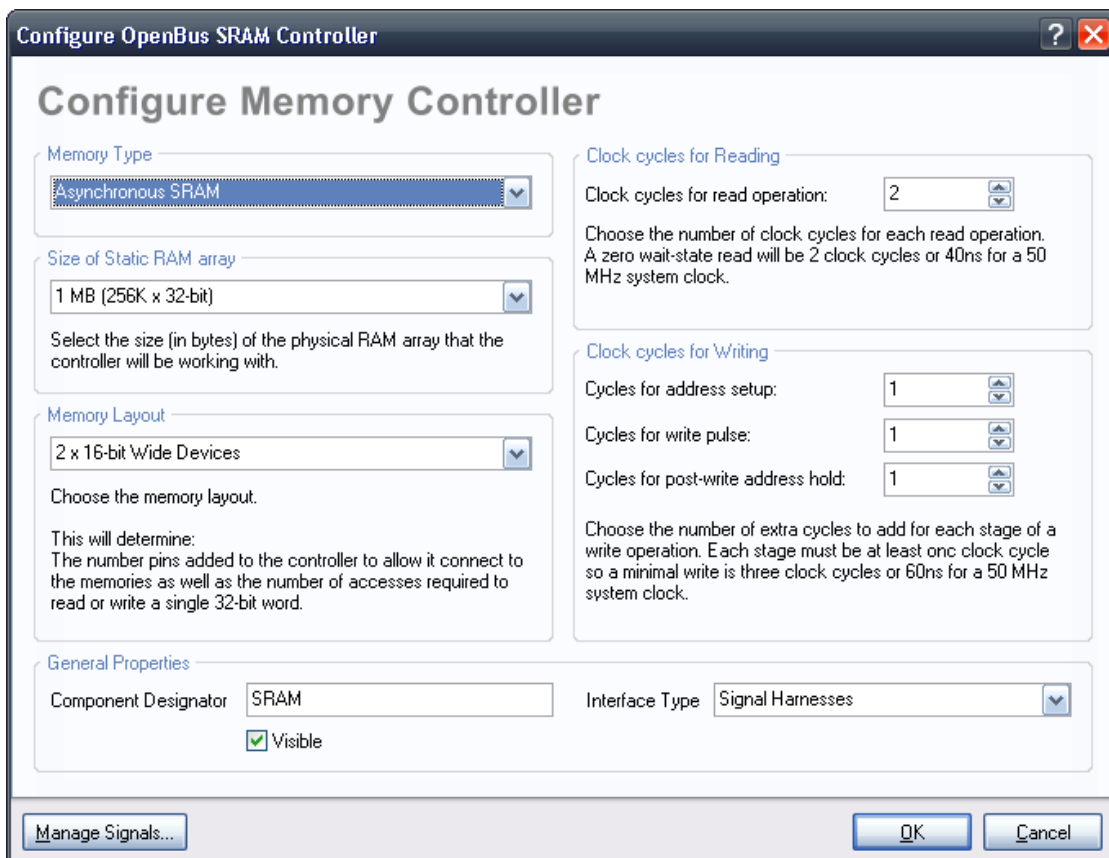

Figure 7. Configure the memory as 1 MB of SRAM.
- Configure the OpenBus SRAM Controller to: **Memory Type** Asynchronous SRAM, **Size** will be 1MB, **Layout** 2x16-bit Wide Devices, and the **Designator** to SRAM. Leave the other options at their default state, as shown in Figure 7.